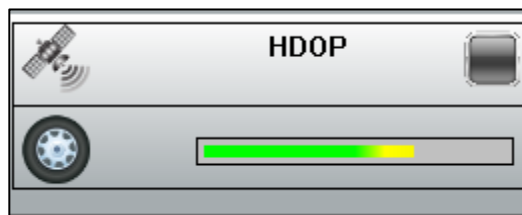

Figure 113: Yellow over speed. Speed approaching system limits.
In the following setup description, the setup will use Channels 1 and 2. After the User has selected the desired linear units from the SIR 30 Start screen, the SIR 30 will display the SYSTEM SETTINGS menu shown in Figure 113 below.
- 3 Max Units/File:** This is the total expected length of the data file in linear units. If the User knows the file length prior to data collection then enter the value, otherwise leave this value at zero (0).
- 4 GPS:** Select CUSTOM if a GPS system is to be used during the survey. The User must enter the location of the GPS receiver x and y offsets with respect to the antenna connected to Channel 1. If the GPS antenna is mounted to the GPR antenna, both the X and Y values will be zero (0).
- 6 TX- RC Mode:** The User should then set the antenna transmit and receive mode of both Channel 1 and Channel 2 to bistatic. The User will note that in this setup, (see Figure 113 above) we have connected a Model 50400 and a Model 50400S antenna. While both of these antennas have a 400 MHz center frequency, one antenna is capable of operating at a higher transmit rate, the 504000S.